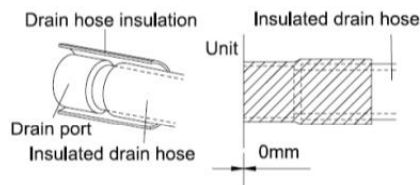

Fig. 4.26
1. Be sure to insulate where the drain port and the drain hose connect.(Fig. 4.26 )